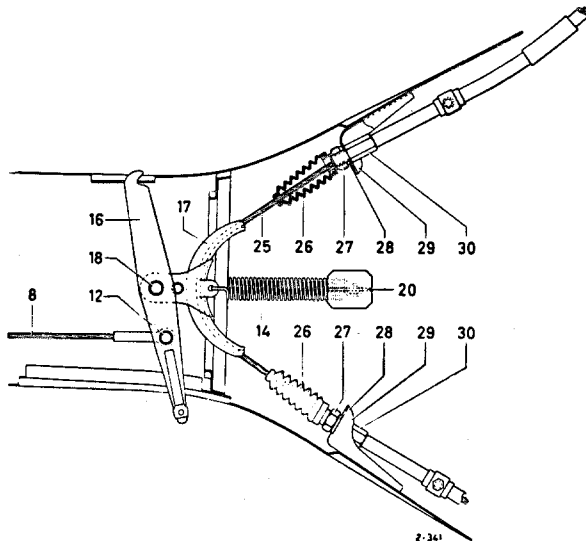

Fig. 42—19/1
1. Unscrew the wing nut (11) from the center brake cable (8) and remove together with the bracket (10) (see Fig. 42—18/1).
2. Pull the cotter pin (15) out of the cable guide plate of the brake lever (4). Pull the center brake cable (8) downward out of the brake lever (see Fig. 42—18/1).
3. Detach the return spring (14) from the brake cable guide (17) and from the bracket (20) at the chassis base panel (Fig. 42—19/1).
5. Pull out the cotter pin at the collar bolt (12) and remove the collar bolt (12) from the equalizer (16).
6. Pull the brake cable (8) out of the propeller shaft housing toward the rear.
7. Attach the new brake cable (8) to the wire in the propeller shaft housing and pull it through the housing by means of the wire (see Fig. 42—19/1).
8. Attach the brake cable (8) to the equalizer (16) by means of the collar bolt (12) and cotter the collar bolt (12).
9. Then attach the equalizer (16) in the shaft housing and attach the return spring (14) to the equalizer and the chassis base panel.
10. Insert the brake cable (8) with the guide lug and the threaded bolt in the brake lever (4). Then install the bracket (10) and screw in the wing nut (11) (see Fig. 42—18/1).
11. Install the cotter pin (15) in the cable guide plate of the brake lever (see Fig. 42—18/1).